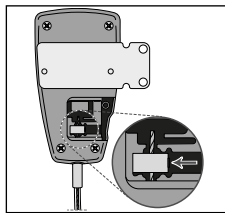

Fig. 9
11. Slide the Cable End Block back over the steel inner cable and position the End Block back into the corresponding slot in the satellite (see Fig. 9).